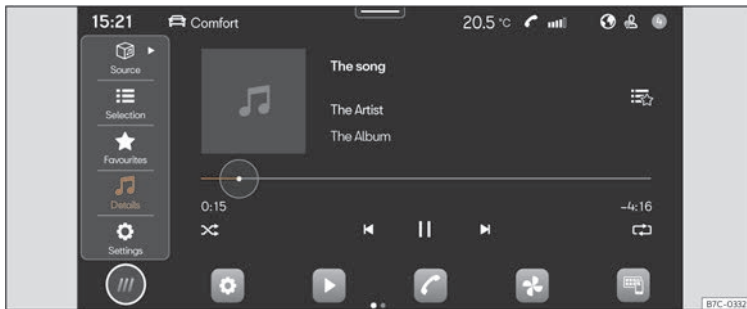

Fig. 153 Schematic diagram: Media view
- Press **HOME** > **▶ >>>** **Fig. 153**.